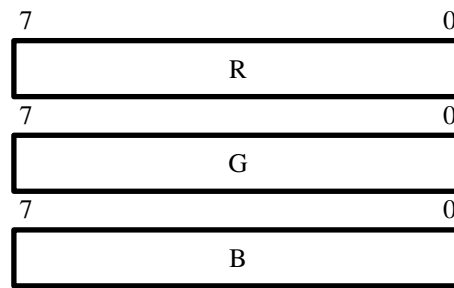

Figure 17. Bayer Pattern RGB Color Space.
- **Bayer Pattern** — This is a special case of the RGB color space where each pixel has a value for only one of the three colors. The pattern of the colors in the frame is shown in 16. Figure 17 shows the format of the bayer pattern data. This mode is defined as 8 bits per color and one color plane.